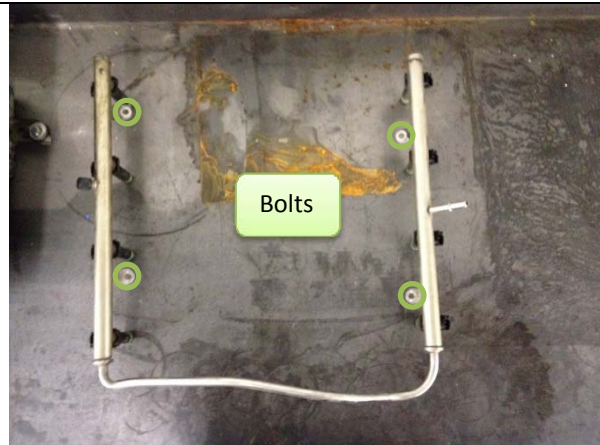

Figure 17: Fuel rail bolt hold down locations.
10.4. Remove four fuel rail bolts (Figure 17)